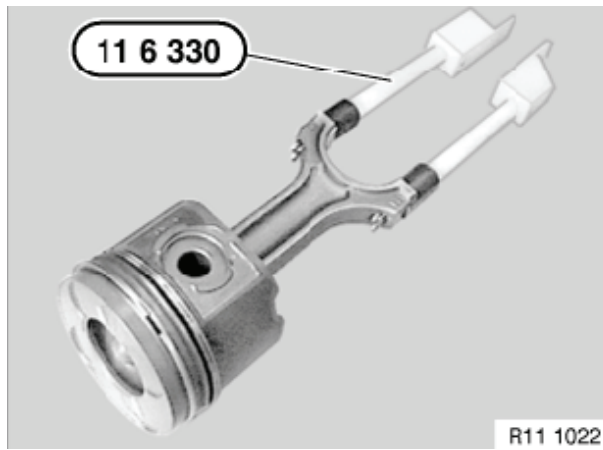

Figure 5-57
5. Install special tool OEM No. 11 6 330 on connecting rod (**Figure 5-57**).